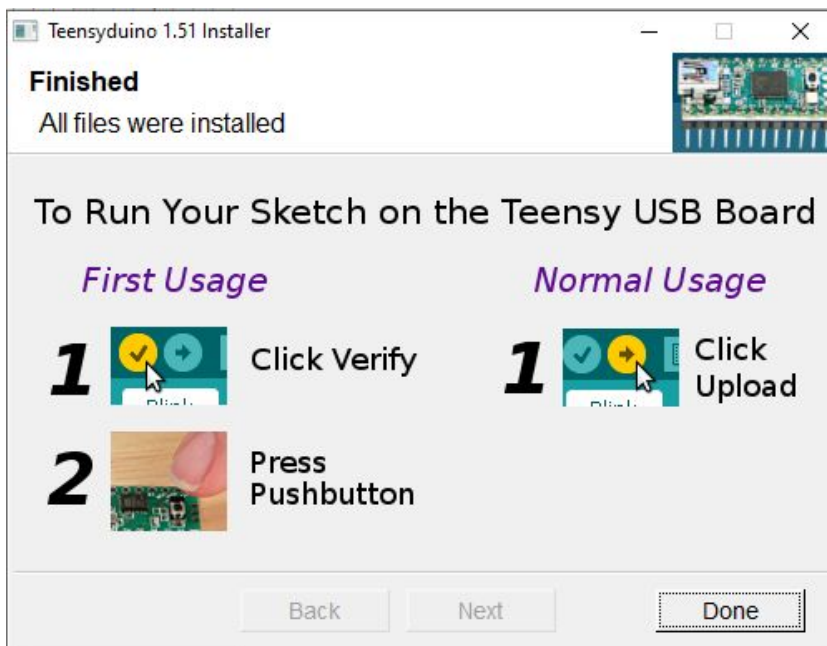

Fig. 5. The final screen of the Teensyduino installer.
5. Take note of the final screen (Fig. 5). This will be a good reference when uploading the firmware to the Teensy: